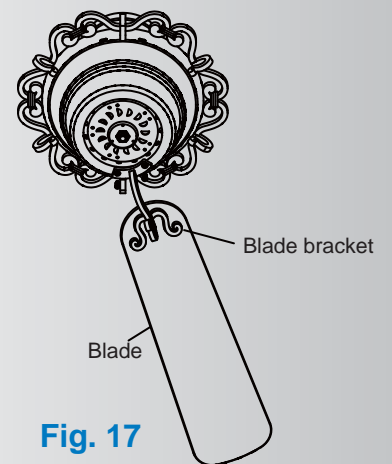

Fig. 17
Step 3. Fasten blade assembly to motor using "pre-installed" mounting screws in the blade bracket . (Fig. 17)